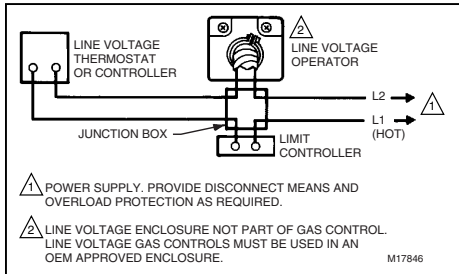

Fig. 5—Typical V400 wiring diagram.
1. Refer to Fig. 5 for typical wiring diagram.